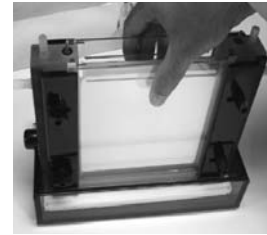

Figure 4-11. Upper into Lower
3. Once the acrylamide has polymerized, place the upper buffer chamber into the lower buffer chamber (Figure 4-11). Slide the upper buffer chamber towards the center of the lower buffer chamber until the UBC pins on the side of the upper buffer chamber slide into the UBC slots of the lower buffer chamber.